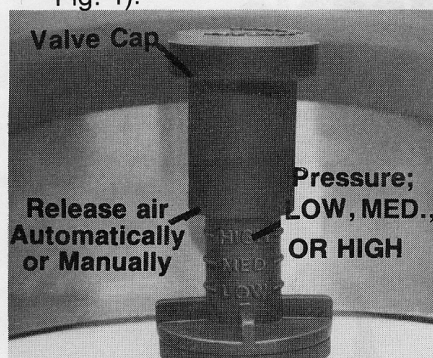

Fig. 1
- A. Melnor's SPRAY SAFE® sprayers are designed with a unique multi-purpose Safety Valve & Pressure Indicator which is engineered to indicate Low, Medium and High Pressure ranges during pumping, and to automatically vent excess pressure when the maximum pressure of approximately 50 PSI has been reached. It can also be operated manually to discharge air easily after use by pulling up Valve Cap. (see Fig. 1).
- K. Do not fill above "FILL LINE." Always pressurize tank on a level surface. Overfilling could allow spray solution to be discharged through the automatic safety valve (see Fig. 1).
A. Turn Pump Handle counterclockwise to disengage from lugs. Pump until difficult to move downward or until automatic Safety Valve reaches "HIGH" mark or opens (see Fig. 1).
C. When solution in Tank is depleted or spray operation is finished, release remainder of air pressure by lifting Safety Valve (see Fig. 1).